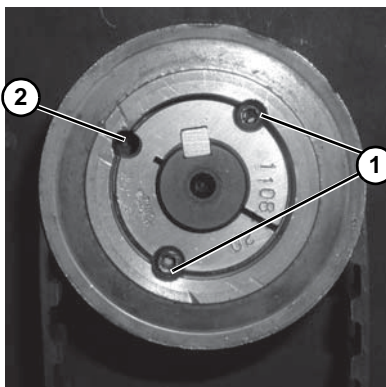

Figure 17
2. Remove taper-lock screws (**Figure 17, item 1**). Insert one (1) of taper lock screws in remaining hole (**Figure 17, item 2**). Tighten screw until pulley is loose. Remove pulley and taper hub assembly.